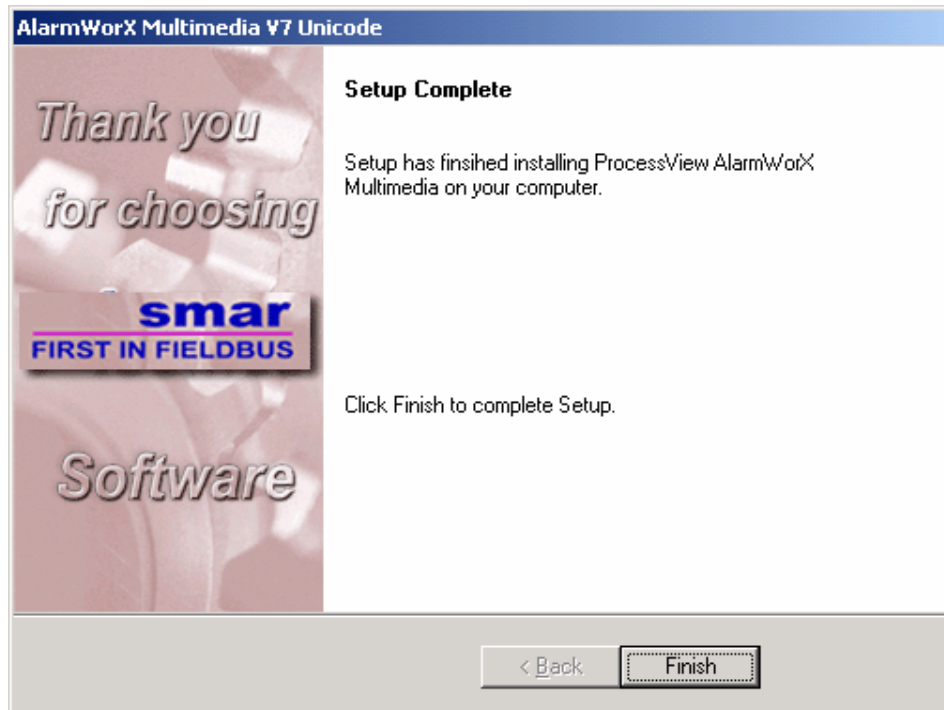

Figure 1.13. Setup Complete Dialog Box
15. The **Setup Complete** dialog box appears, as shown in **Figure 1.13**. Click the **Finish** button to complete the installation. When you have finished installing Multimedia, restart your computer.